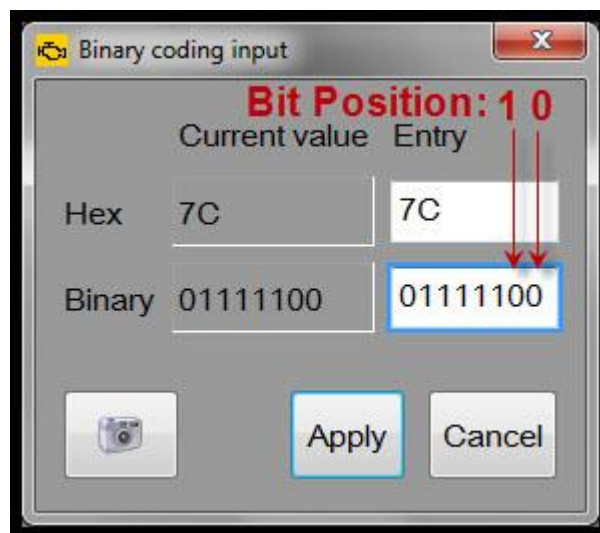

Figure 4. ODIS binary input for coding with indicated bit positions.
4. At the bottom of the screen, choose “Binary Coding”. The Binary coding input window will appear (Figure 4).
5. **For MMI3G/MMI3G+:** Change bit 0 from “1” to “0”. Bit position 0 is indicated in Figure 4.
For MIB High: Change bit 1 from “0” to “1”. Bit position 1 is indicated in Figure 4.